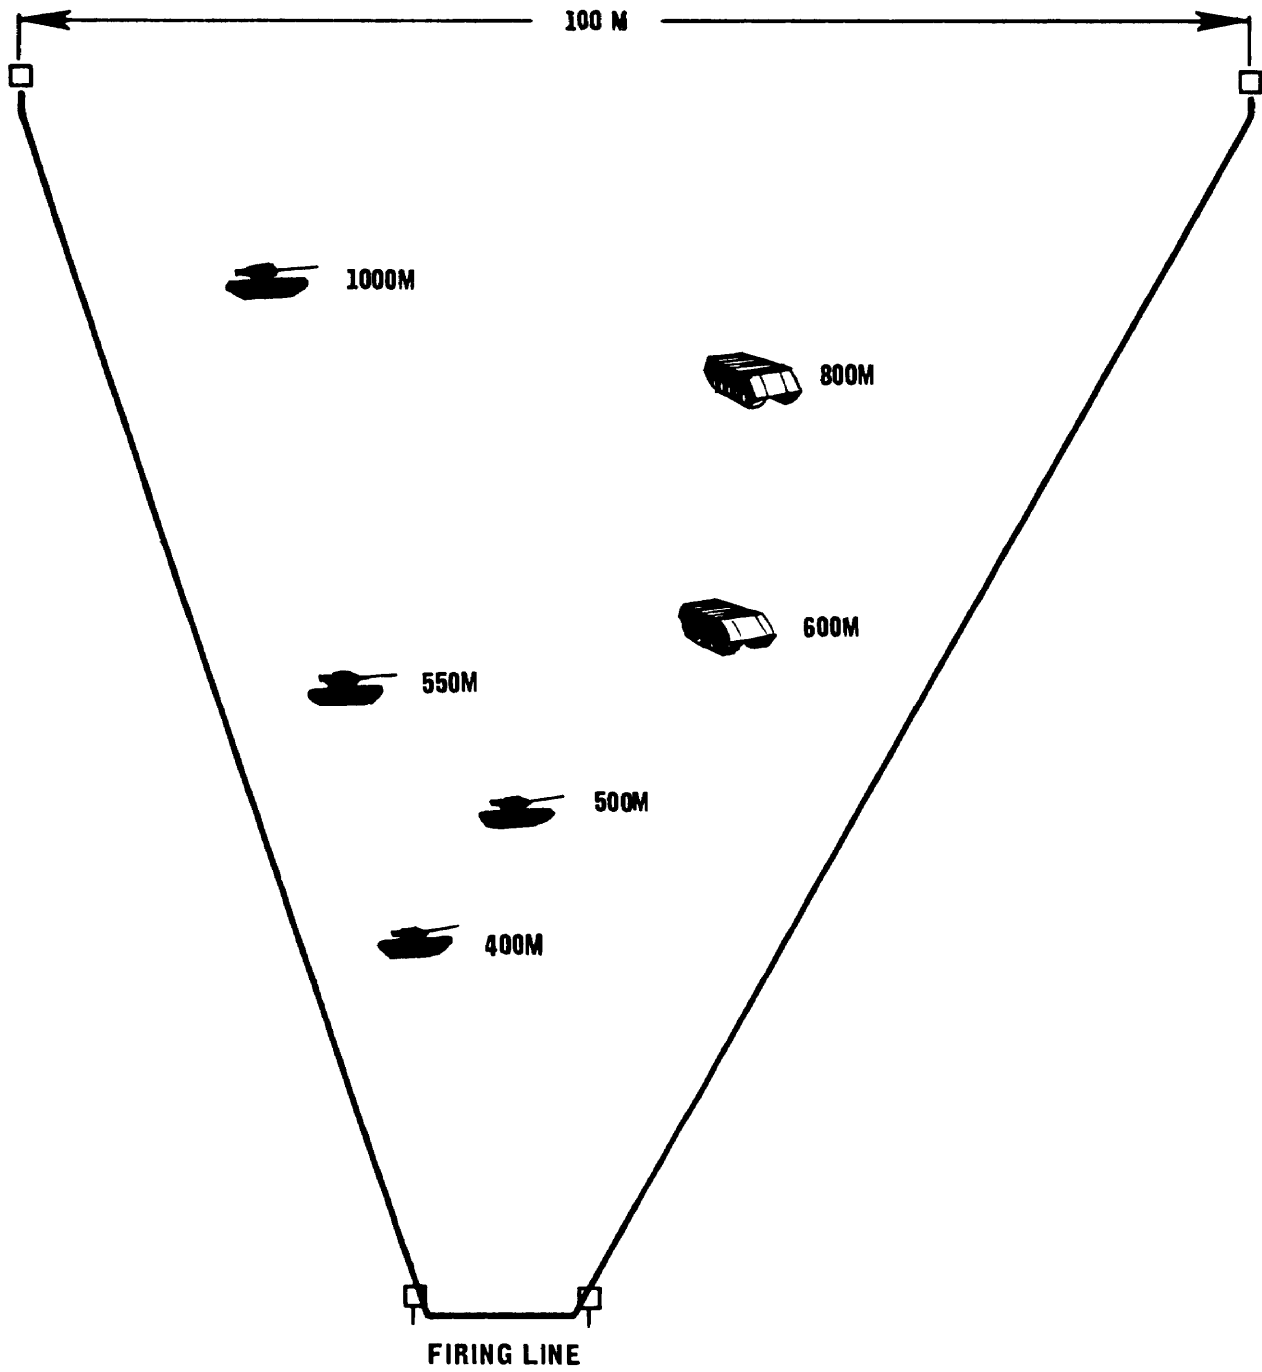

Figure 26. Range layout, transition range.
- (1) *Purpose.* This table is designed to test the gunner's ability to adjust fire by using the burst-on-target and the observation-of-tracer methods.
- (2) *Physical layout.* Any .50 caliber machinegun range may be used by placing a tank or other vehicular targets down range as shown in figure 26.
- (3) *Equipment.*
- (4) *Ammunition.* Use ball, caliber .50, Tr-4-1 MLB.
- (5) *Conduct of firing.*